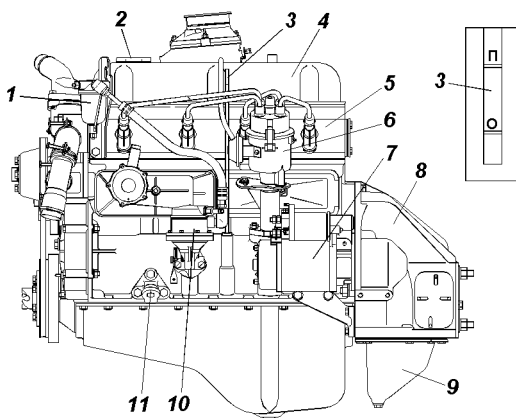
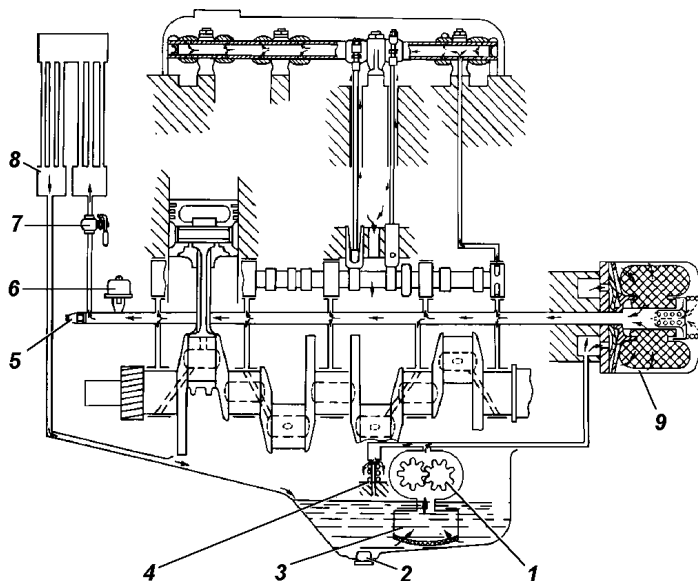

Fig. 16. Engine
Fig. 22. Engine lubrication diagram:
The automobile is equipped with the four-cylinder engine with upper valve arrangement which is shown in Fig. 16, 17.
For cooling oil in the engine lubrication system, an oil cooler is provided. It is recommended to cut in the cooler by opening the cock 7 (Fig. 22) at an ambient temperature above +20 °C. But when riding on heavy roads (with heavy load and at a high engine crankshaft speed), also cut in the cooler independent on an ambient temperature. The level of oil in the engine crankcase should be in register with the mark "II" on oil dipstick 3 (Fig. 16). Measure the oil level 2-3 min after shutting down a warmed-up engine.
**Fine fuel filter** (refer to Fig. 16) Periodically disassemble the fine fuel filter for flushing the bowl and filter element.